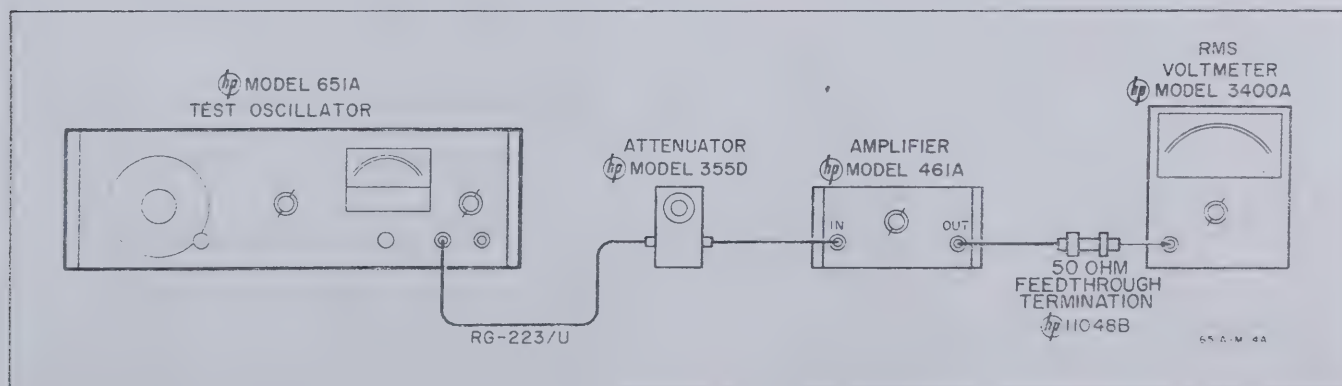

Figure 5-5. Attenuation Check
- a. Connect Model 651A as shown in Figure 5-5. Use a Model 355D Attenuator with a known accuracy (within ± 0.02 db). Use a short (6 - 12 inches) RG-223/U cable between Test Oscillator and Attenuator. Use short cables (6 - 12 inches) between Attenuator, Amplifier, and RMS Voltmeter.
- j. Check Option 02 Attenuation by adding a two resistor (43.2 ohm and 86.6 ohm) impedance converter across the 75 Ω output connector. Connect the 43.2 ohm resistor to A3R14 and the 86.6 ohm resistor to ground. Use test setup in Figure 5-5 with the Model 355D connected across the 86.6 ohm resistor.